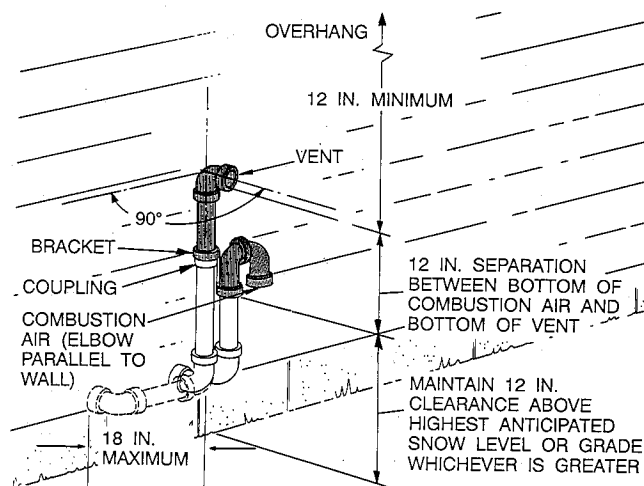

Fig. 14—Sidewall Termination (less than 12 in. above snow level or grade)
3. Sidewall termination when combustion-air and vent pipes exit through sidewall less than 12 in. above highest anticipated snow level or grade. (See Fig. 14.)
- Loosely install U-fitting and bracket as shown in Fig. 14. Position U-fitting so open end is against structure wall.
- Loosely install vent outlet pipe and elbow in coupling as shown in Fig. 14.
- Check required dimensions as shown in Fig. 14.
- Install bracket as shown in Fig. 14.